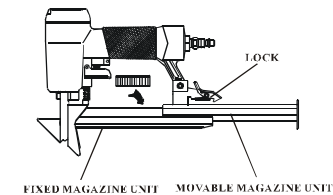

Figure 3
1. Depress the LOCK(60) to release the MOVABLE MAGAZINE (51) and pull the magazine out fully as shown in Figure 3.
2. Place a full clip of the specified type and size fasteners on the FIXED MAGAZINE (54), up to 100 fasteners may be loaded in the magazine.